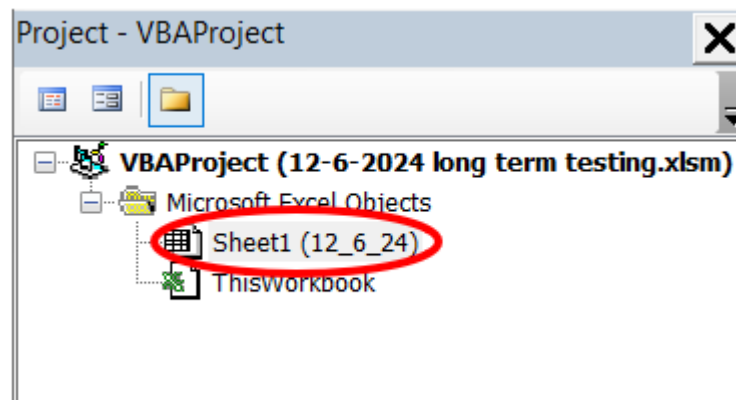

Figure 13: Opening VBA Coding Window
3. To access the coding window double click the current sheet that your data is on, as seen in figure 13.